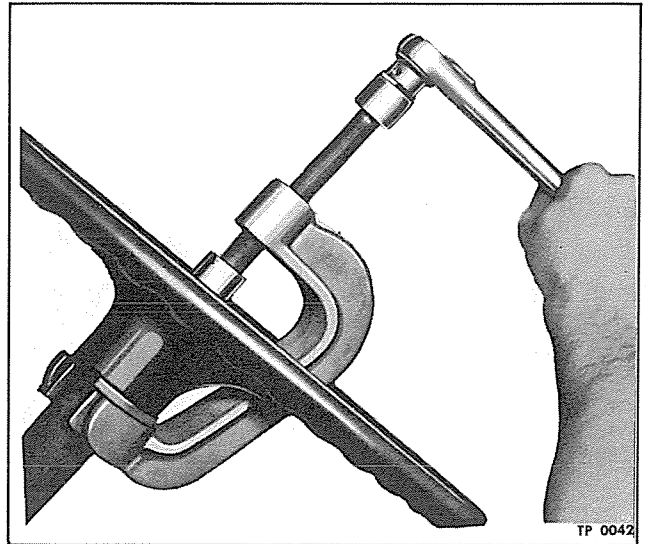

Figure 4—Removing Steering Wheel—
3. Remove steering wheel retaining nut, then, using steering wheel puller (Tool No. J-452-G) as illustrated in figure 4, pull wheel off upper steering shaft and remove key from keyway in upper shaft.
5. Disconnect universal joint, at bevel gear housing, by removing U-bolts (18) which attach journal (19) of joint to splined yoke (16).